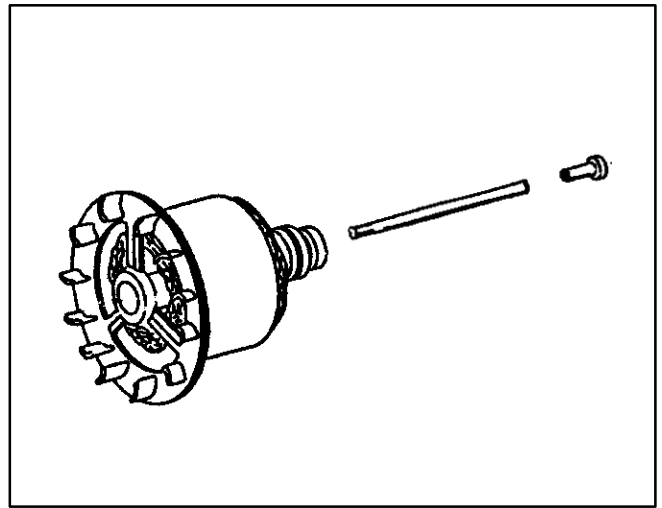

FIGURE 72. ROTOR REMOVAL TOOL
2. Thread in the rotor removal rod (headless bolt, Figure 72) and turn it with a screwdriver until it bottoms. Thread in and tighten a 9/16-12x1-3/4 bolt against the rod until the rotor breaks loose from the crankshaft.